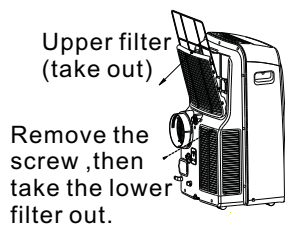

Fig.21
This unit has two filters. Take the upper filter out along the the arrow direction (Fig.21), then take the filter down. Remove the lower filter by loosening the screw, taking out the filter as shown in Fig.21.
- Remove the plug from the bottom drain outlet, all the water in the bottom tray will drain out (See Fig.21).